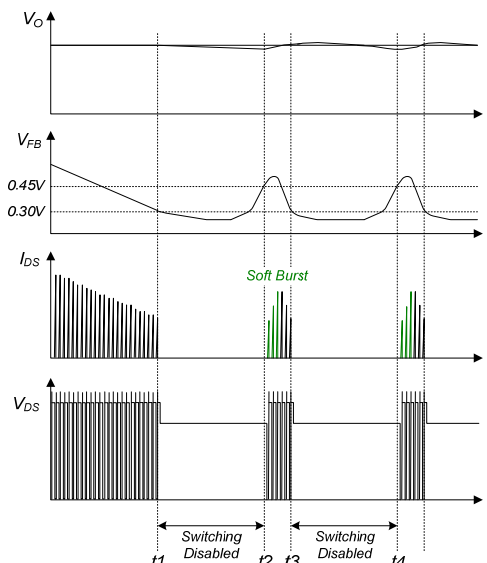

Figure 23. Burst-Mode Operation
**5. Soft Burst-Mode Operation:** To minimize power dissipation in Standby Mode, the FSL176MRT enters Burst-Mode operation. As the load decreases, the feedback voltage decreases. The device automatically enters Burst Mode when the feedback voltage drops below  $V_{BURL}$  (300mV), as shown in Figure 23. At this point, switching stops and the output voltages start to drop at a rate dependent on standby current load. This causes the feedback voltage to rise. Once it passes  $V_{BURH}$  (450mV), switching resumes. The feedback voltage then falls and the process repeats. Burst Mode alternately enables and disables switching of the SenseFET, reducing switching loss in Standby Mode.